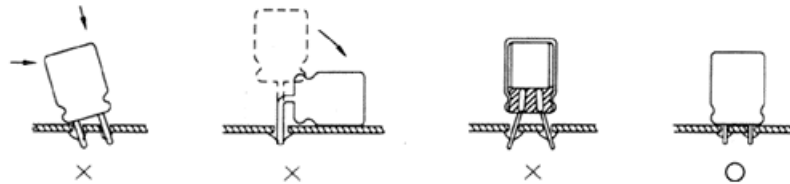

figure 14. The placement of capacitors[5]
- Care must be taken for the different placement as shown in figure 14.